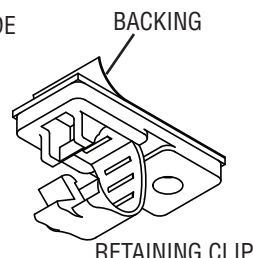

Fig. 5
6. Slip Cable into clip(s) and snap closed. (See Fig. 5)